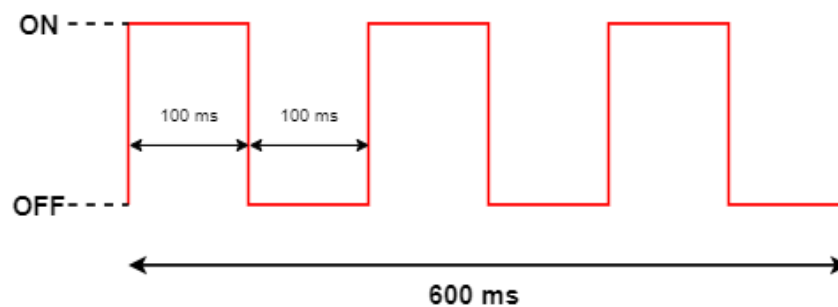

Figure 3-3: The RED LED Pattern Before Entering DEEP SLEEP
2. Immediately, **RED** is toggled ON and OFF 3 times: every 100 ms for 0.6 sec as shown in Figure 3-3.